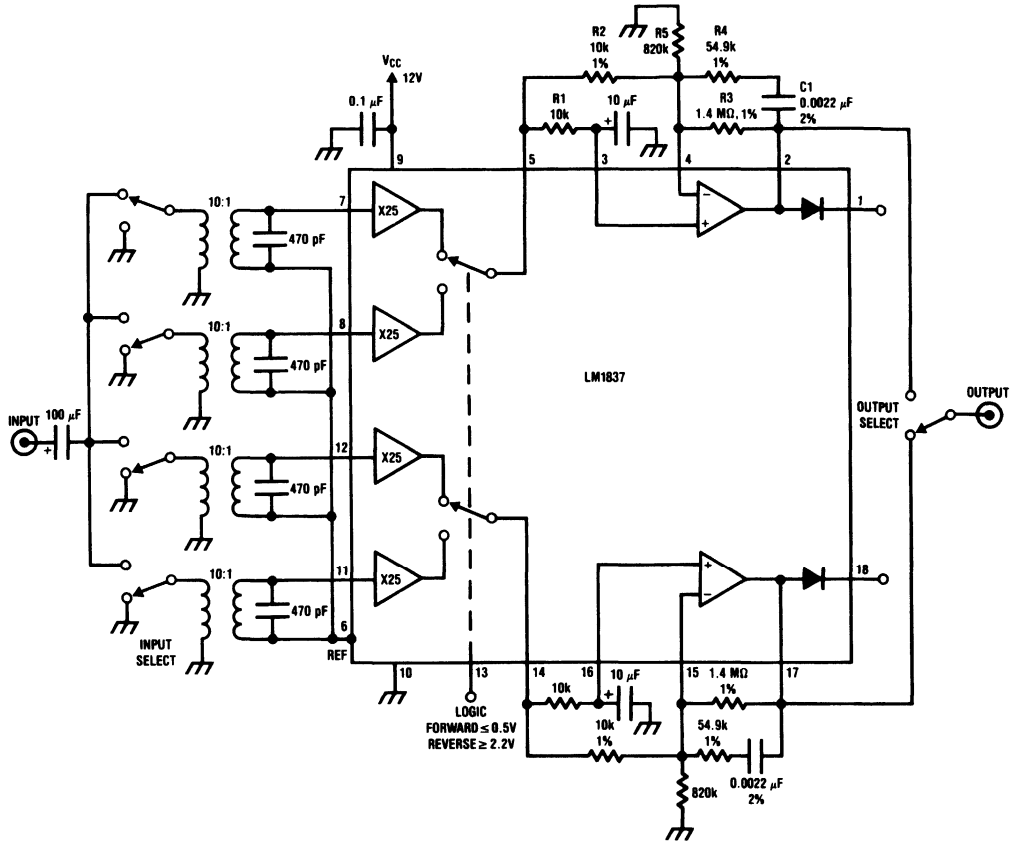

FIGURE 2. General Test Circuit
**Note 4:** The numbers are referred to an output level of 160 mV at pins 2 and 17 using the circuit of *Figure 2*. This corresponds to an input level of 0.3 mVrms at 333 Hz.
The complete circuit is shown in Figure 2. A circuit with 5% components and biased for a minimum supply of 10V is shown in Figure 1. If additional gain is needed R1 and R2 can be reduced without changing the frequency response of the circuit.